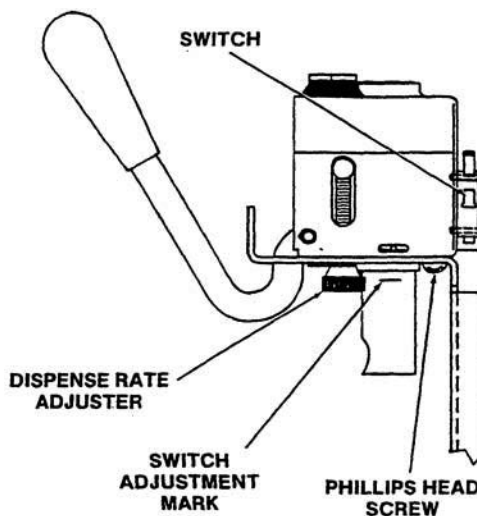

Figure 6-9 Spigot Switch Replacement
- Remove the dispense rate adjuster knob located below the header panel. (Refer to Figure 6-9)